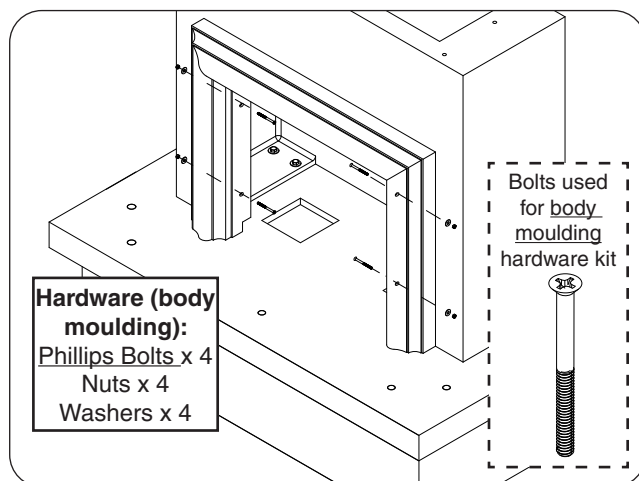

Fig. 22-3 Fasten body moulding (if applicable)
2. Carefully align the pilot holes, and insert the hardware (body moulding hardware kits) in the order shown in Fig. 22-3. Hand tighten, then use a Phillips screwdriver to fasten.